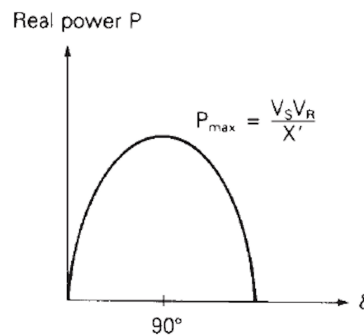

Figure 1: Real power delivered by a lossless line versus voltage angle across the line
To understand rotor transient stability analysis, we return to Fig. 1, pasted below for convenience:
Q. Right after the sudden increase in P_m , which direction does P_{net} initially push δ ? (To the right or to the left in Fig. 1)